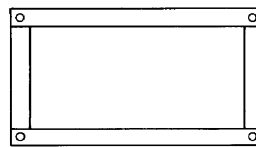

fig.1
24. Indicate clearly on the frame (*fig.1*) the location of a tie which will stop the frame deforming as shown (*fig. 2*).